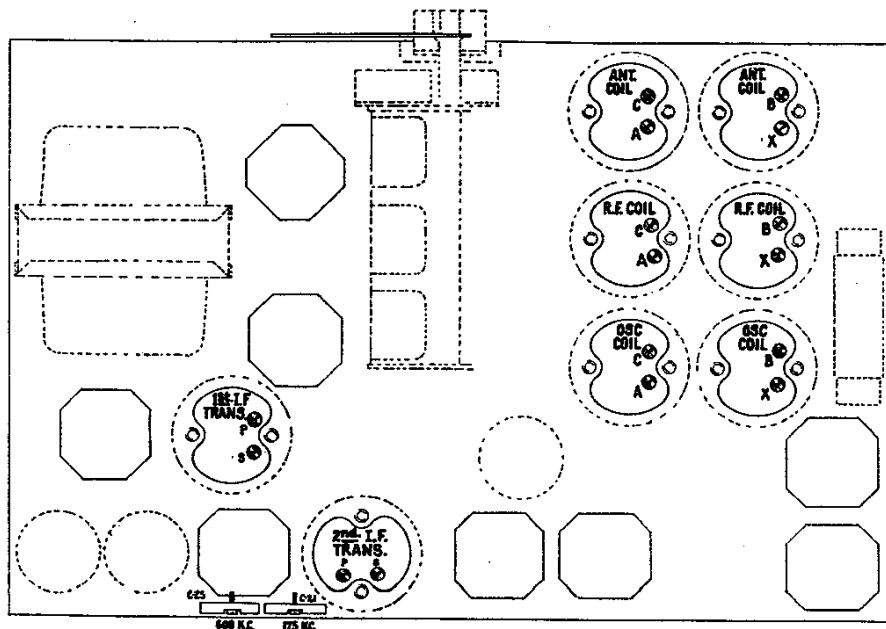

Figure 8—Location of Trimmer Capacitors
Figure 8 shows the location of the trimmers for each band. Care must be exercised to only adjust the trimmers in the band under test.
(c) Shift the external oscillator frequency to 175 K.C. Tune in the 175 K.C. signal irrespective of scale calibration and adjust the series trimmer, marked 175 K.C. on Figure 8, for maximum output, at the same time rocking the variable tuning capacitor. Then readjust at 410 K.C. as described in (b).
(c) Shift the external oscillator frequency to 600 K.C. Tune in the 600 K.C. signal, irrespective of scale calibration, and adjust the series trimmer, marked 600 K.C. on Figure 8, for maximum output, at the same time rocking the variable tuning capacitor. Then readjust at 1,720 K.C. as described in (b).
- (c) Refer to Figure 8. Adjust each trimmer of the I. F. transformers until maximum output is obtained. Go over the adjustments a second time.